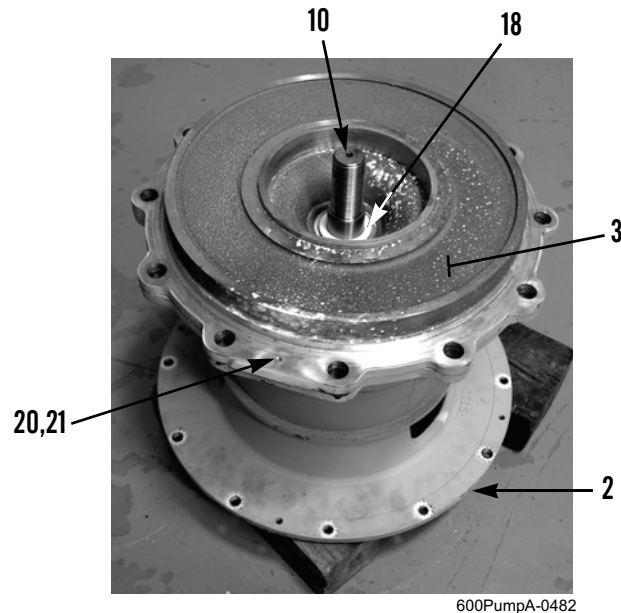

Figure 17. Seal Plate and Intermediate Housing.
- b. Carefully slide assembled seal plate (Figure 17, Item 3) and stationary portion (Figure 17, Item 18) of seal onto impeller shaft (Figure 17, Item 10).
- c. Secure seal plate (Figure 17, Item 3) to intermediate housing (Figure 17, Item 2) with two new lockwashers (Figure 17, Item 21) and screws (Figure 17, Item 20).
- d. Place intermediate housing (Figure 17, Item 2) so that impeller shaft (Figure 17, Item 10) is horizontal.
- g. Lightly lubricate impeller shaft (Figure 18, Item 10) with oil. DO NOT allow oil to contact stationary portion (Figure 17, Item 18) of seal that is already installed.
- i. Return intermediate housing (Figure 17, Item 2) to vertical position.